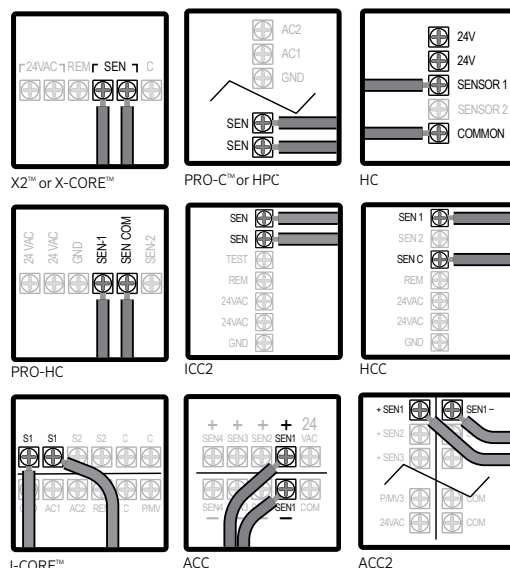

Figure 4
- Connect one wire to the terminal labeled “SEN” and the other wire to the other “SEN” terminal (Figure 4).